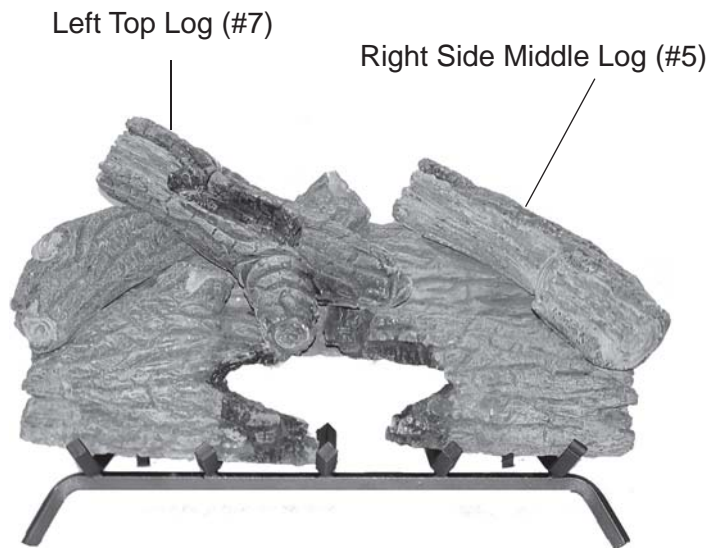

Figure 23 - Installing Right Side Middle Log (#5) and Left Top Log (#7)
6. Install right side middle log #5 as shown. *See Figure 23.*
7. Install left top log #7 as shown. *See Figure 23.*